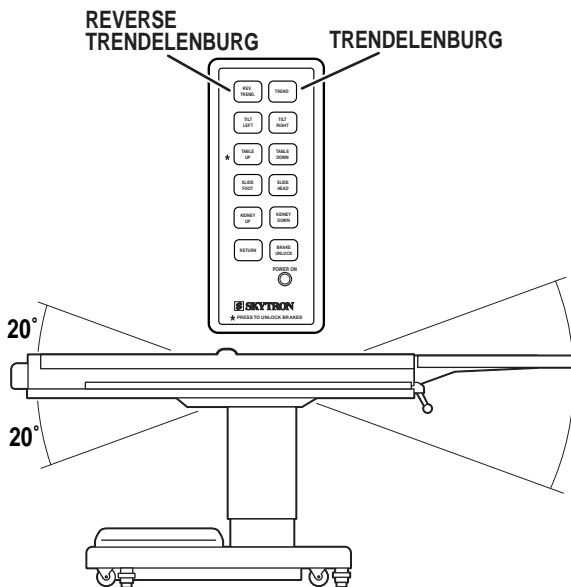

Figure 2-5. Trendelenburg Positioning
c. Trendelenburg. To place the surgical table in a trendelenburg (head down) position, press the TREND button. See figure 2-5. Tilt of up to 20° may be obtained. To place the table in a reverse trendelenburg (head up) position, press the REV TREND button. Tilt of up to 20° may be obtained.